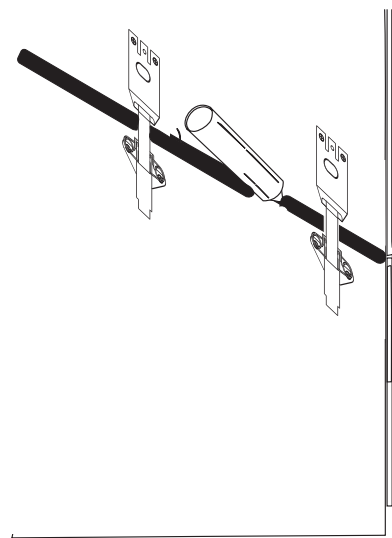

FIGURE 3
- When unit is securely assembled, a bead of mildew resistant bathroom silicone caulking must be applied to the back side of the joint to form a moisture barrier. (See Figure 3).